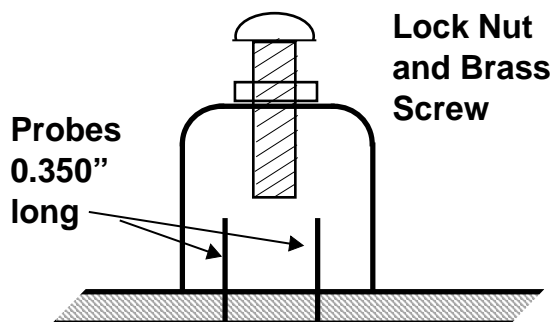

Figure 8
2. If you are using a spectrum analyzer to tune the transverter, install all of the filter pins (14) as shown in figure 8. The pins that are supplied in the kit are the correct length (0.300"- 0.350" long) if you just cut off the tapered sharp points. Now insert and solder. Connect the spectrum